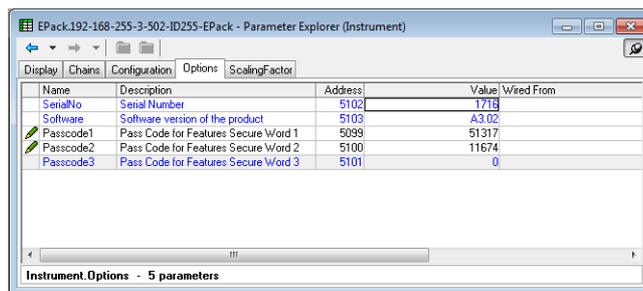

Figure 158 Instrument options configuration
1. Telephone the local Eurotherm Sales/Service agent with the serial number of the instrument to be updated, and the current software version. All required information (Serial Number, Software version, current features codes) can be found in Instrument Option folder using iTools (see Figure 158 below). This information can also be found through HMI in configuration mode 'Info' menu.